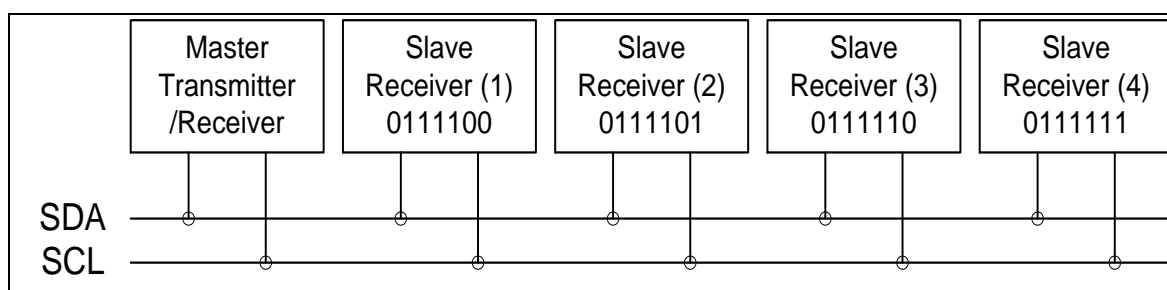

**Figure 15 Definition of START and STOP Condition**
Both SDA and SCL lines remain HIGH when the bus is not busy. A HIGH-to-LOW transition of SDA, while SCL is HIGH is defined as the START condition (S). A LOW-to-HIGH transition of SDA while SCL is HIGH is defined as the STOP condition (P). The START and STOP conditions are illustrated in **Figure 15**.